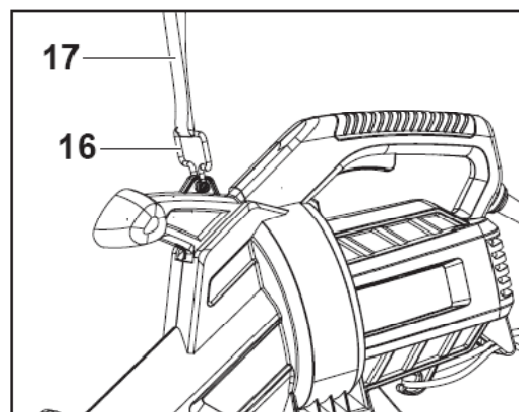

Fig. 6
2. Attach the harness (17) to the clip (16) on the upper side of the motor unit (Fig. 6).